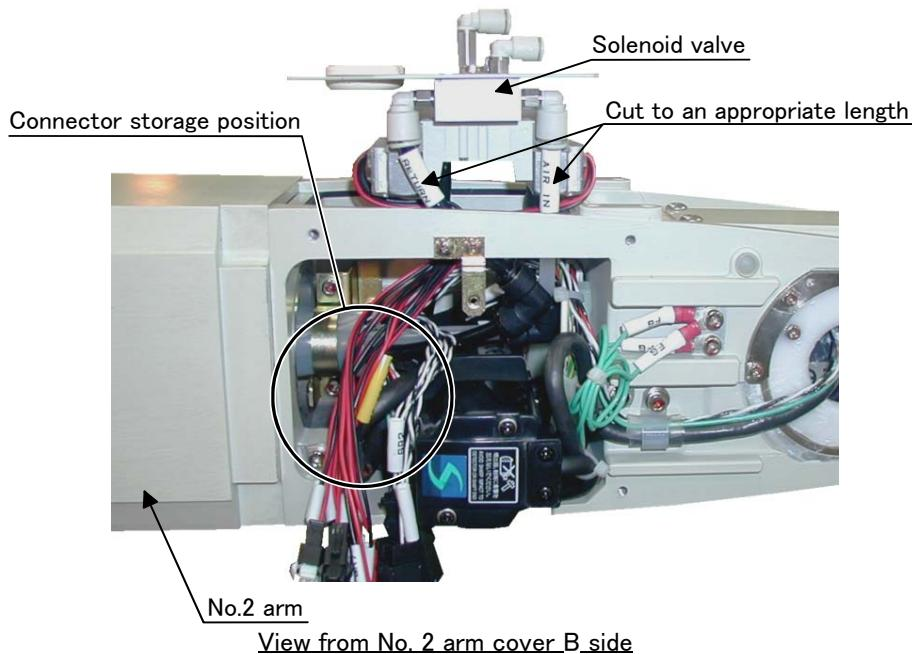

Fig.3-2 : Solenoid valve installation diagram details 1
Fig. 3-1 and Fig. 3-2 shows the solenoid valve installation procedures and the solenoid valve connector connection procedures. The installation procedures are as follow. This work must be carried out with the controller power turned OFF.
- 3) Connect the connectors of “GR1” and “GR2” stored in section A to the connectors of “GR1” and “GR2” coming out of the solenoid valves. Store the connectors near the location marked with O shown in Fig. 3-2.